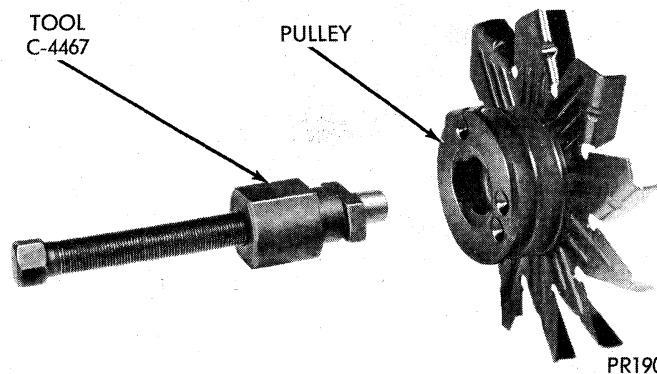

Fig. 52—Pulley Removing Tool
- (1) The pulley is an interference fit on rotor shaft. Remove pulley with Puller Tool C-4467-1.
- (2) Insert tool into hub of pulley and rotate to lock into place (Fig. 52).